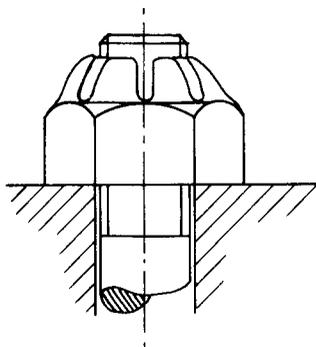

Figure 1.33 Spring lock nut (compression stop nut)
**Spring lock nut (compression stop nut)** This is a hexagonal nut similar in appearance to a castle nut but the slots in the top of the nut form tongues which are initially pressed down to apply a frictional force on the bolt when fitted (Figure 1.33).